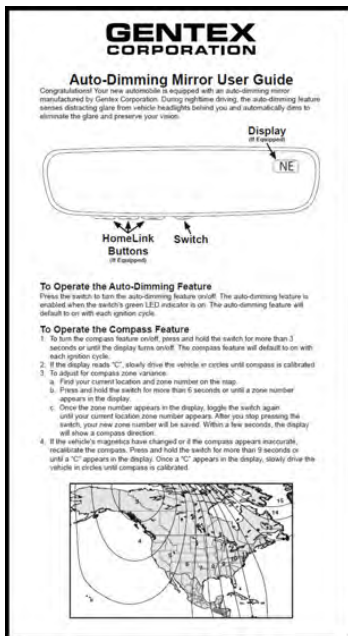

Figure 23
23. Place owner's card in the glove box. See figure 23.